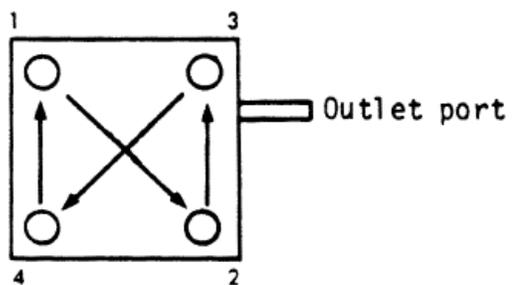

Fig. 2. Diagonal crossing pattern for tightening screws in the Bio-Dot apparatus.
3. Place the sample template on top of the membrane. Finger-tighten the four screws in a diagonal crossing pattern to ensure uniform pressure (Fig. 2).